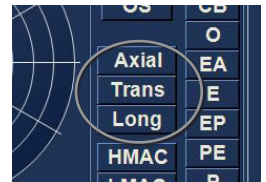

Figure 5.26 - Changing a View - Probe Position
2. Move to the “Edit Current View” area of the Exam Screen and select the correct probe position as shown in Figure 5.26.